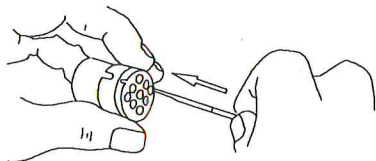

FIG. 2
2. Grasp wire behind contact and place into hole from back side, see Fig. 2.